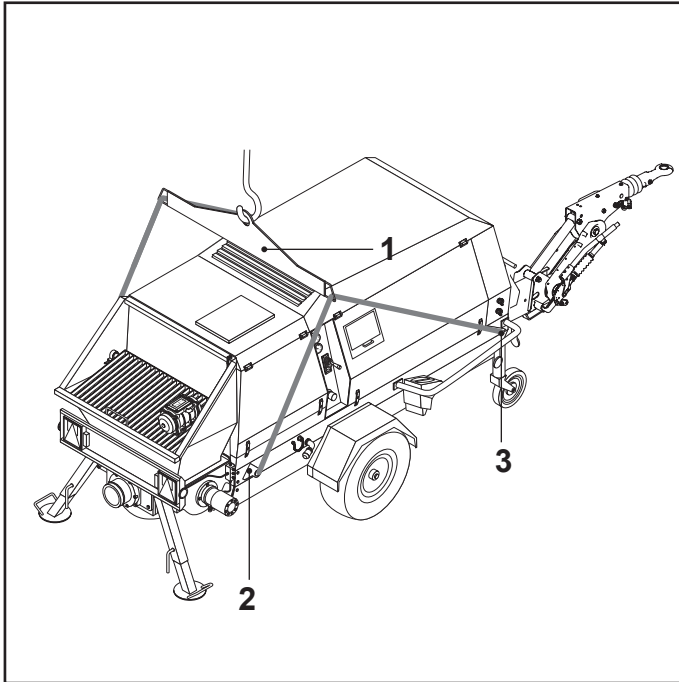

FIG. 10
BETON MASTER is provided with four lifting points and supplied with a lifting beam (FIG. 10).
- Fasten the ropes to the lifting beam (FIG. 10-REF. 1) and to the four lifting points, attaching the shorter ropes to the hooks shown in FIG. 10-REF. 2 and the longer ropes to the hooks shown in FIG. 10-REF. 3.